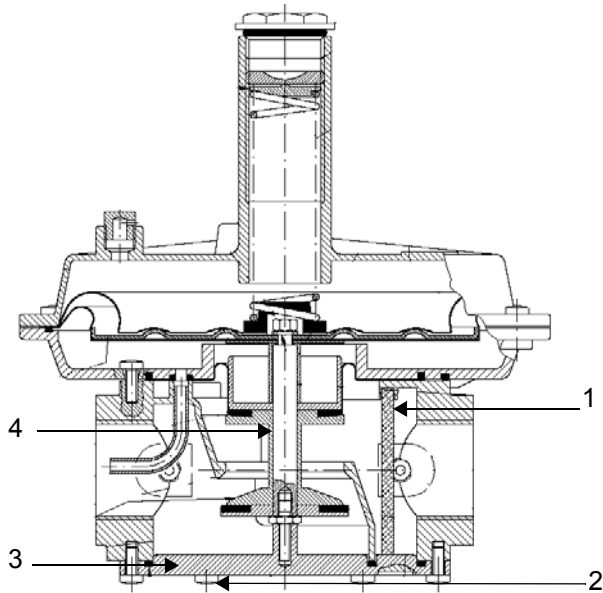
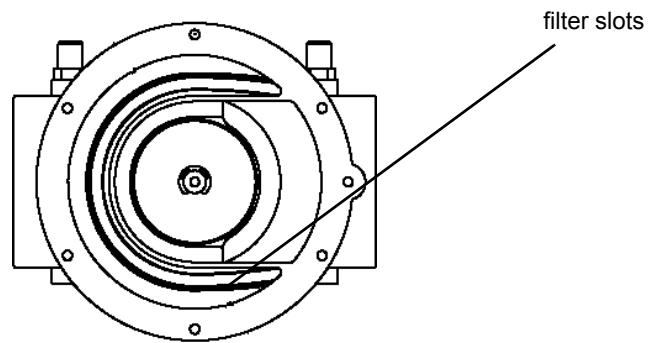

Fig. 36 - threaded body
Fig. 37 - threaded body without bottom cover
To check the filtering part (1) on threaded bodies (see Fig. 36):
- remove the filtering part (1), clean it with water and soap, blow it with compressed air or replace it if necessary;
- reassemble the filtering part in its initial position checking that it is placed in its own slots (see Fig. 37);
- reassemble the bottom cover (3), being sure that the main bolt is centered in the bottom cover slot.